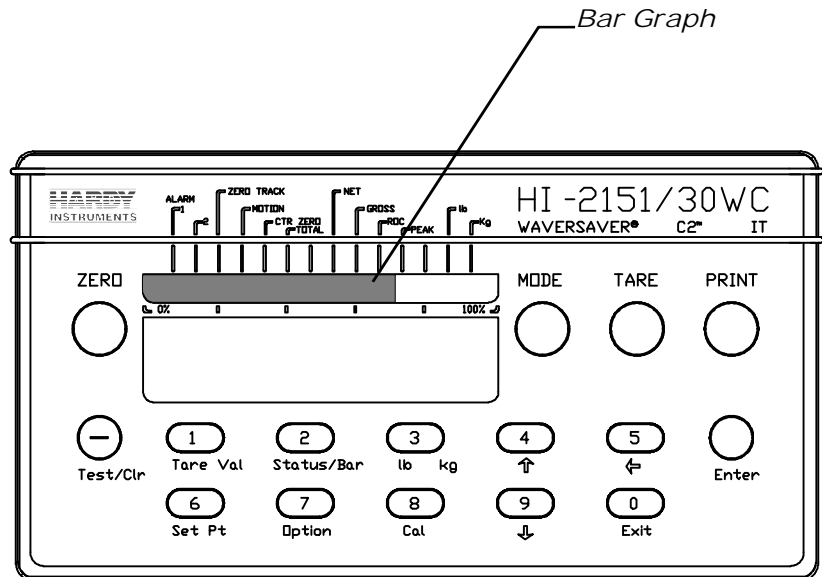

FIG. 5-2 FRONT PANEL, BAR GRAPH DISPLAYED
- The Bar Graph function displays in graphical form the value of the mode (Total, Gross, Net, ROC, Peak) selected in the bar graph setup menu. (See Fig. 5-2)